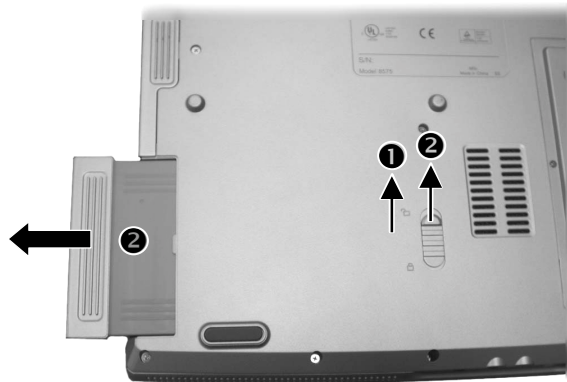

Figure 2-1 Remove the battery pack
2. Slide the release lever to the “unlock” (  ) position ( **1** ), then sliding and holding the release lever outwards while pull the battery pack out of the compartment ( **2** ). (Figure 2-1)